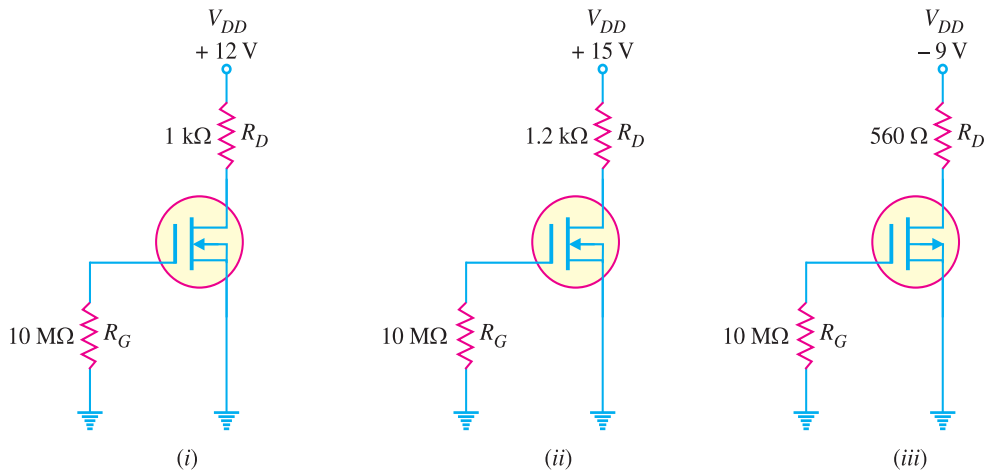

Fig. 19.67
9. Determine V_{DS} for each circuit in Fig. 19.67. Given $I_{DSS} = 8 \text{ mA}$. [(i) 4V (ii) 5.4V (iii) -4.52V]